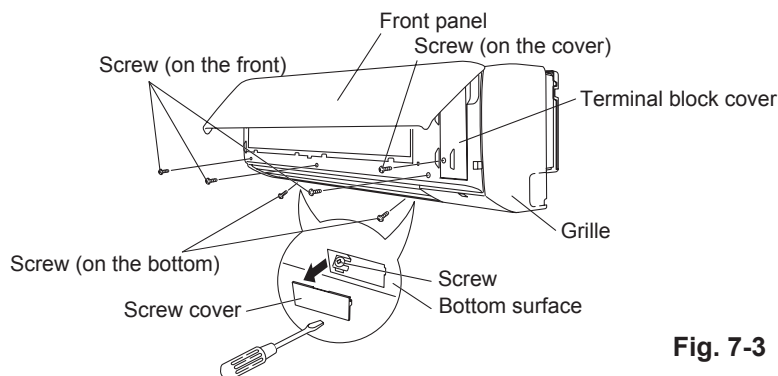

Fig. 7-3
- Remove the two screw covers bellow the grille and open the front panel. (Fig.7-3)
- Remove the six screws. (Fig.7-3)
- Remove the terminal block cover. (Fig.7-3)
- Press the grille to its original position. Attach six screws and two screw covers. (Fig.7-3)
- Close the front panel. (Fig.7-3)